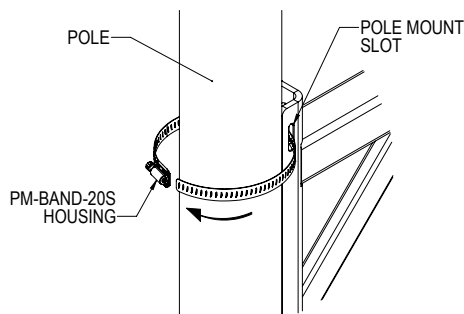

Figure 1
**Step 1:** Insert the end of the band through the slots of the PM-24-6DOWN-G and out on the other side. Wrap the banding strap snugly around the pole until the end reaches the band's housing (*Figure 1*).